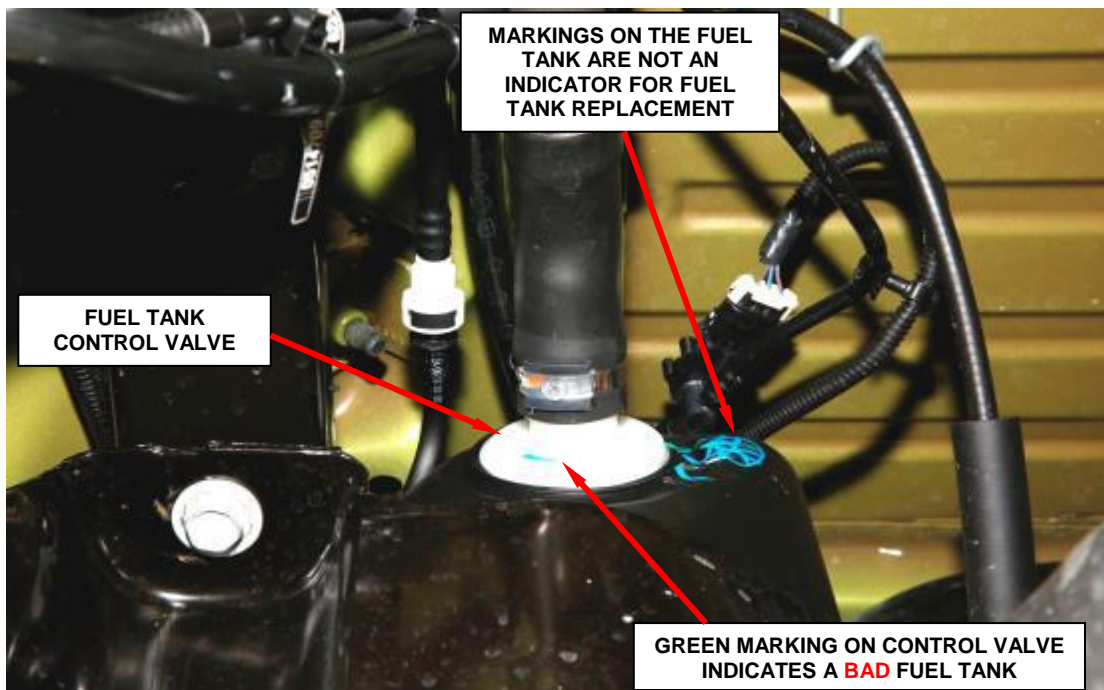

Figure 1 – Inspect Fuel Tank Control Valve for Marking
2. Inspect the fuel tank control valve for marking (**Figures 1 and 2**).
- If the fuel tank control valve has a **green** paint mark, continue with Section **B. Replace Fuel Tank and Fuel Level Sending Unit** (Figures 1 and 2).
- If the fuel tank control valve has a **NO** visible paint mark, continue with Section **B. Replace Fuel Tank and Fuel Level Sending Unit** (Figures 1 and 2).